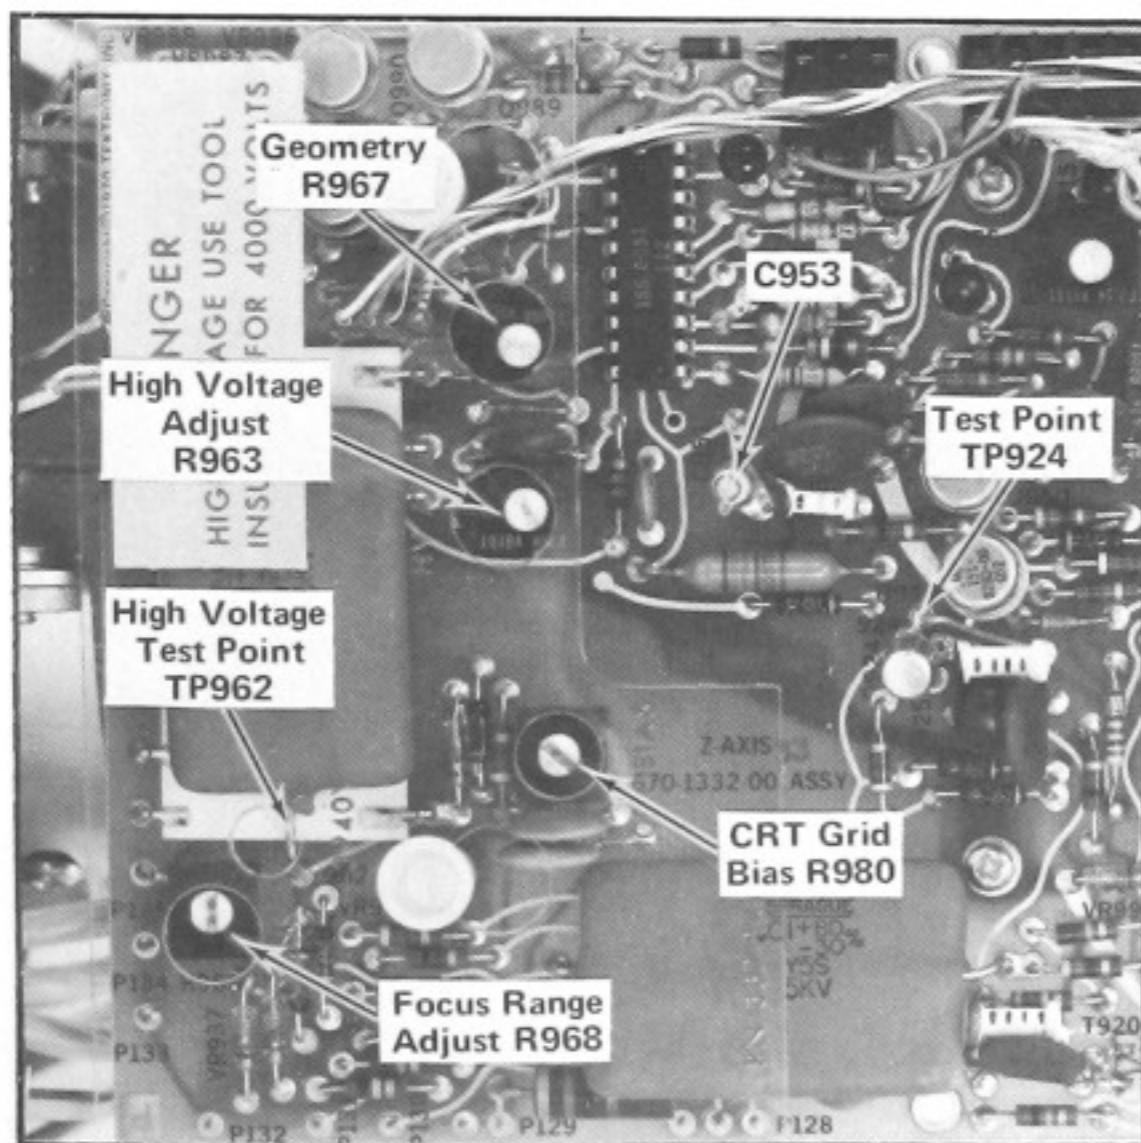

Fig. 5-5. CRT circuit test point and adjustment locations.
a. Connect the DC Voltmeter between the -3940 volt test point TP962 (see Fig. 5-5) and ground (connect ground lead first).
c. ADJUST—High Voltage Adjust R963 (see Fig. 5-5) for a meter reading of -3940 volts, ± 78.8 volts.
a. Set the DC voltmeter to a 25 volt or higher DC range and attach the + lead to test point TP924 on the Z Axis circuit board (see Fig. 5-5) and the – lead to ground.
f. ADJUST—CRT Grid Bias adjustment R980 (see Fig. 5-5) so the spot on the CRT just disappears.
k. ADJUST—C953 (see Fig. 5-5) for optimum waveform risetime without exceeding 10% aberrations. Perform the fine adjustment of C953, (while observing the first division of the trace on the screen of the oscilloscope being calibrated) for uniform brightness.
d. ADJUST—Focus Range adjust R968 (see Fig. 5-5) and ASTIG adjust R85 (located on rear panel) for optimum focus of all portions of the display.
e. ADJUST—Geometry adjustment R967 (see Fig. 5-5) for minimum bowing and tilt of time marks.